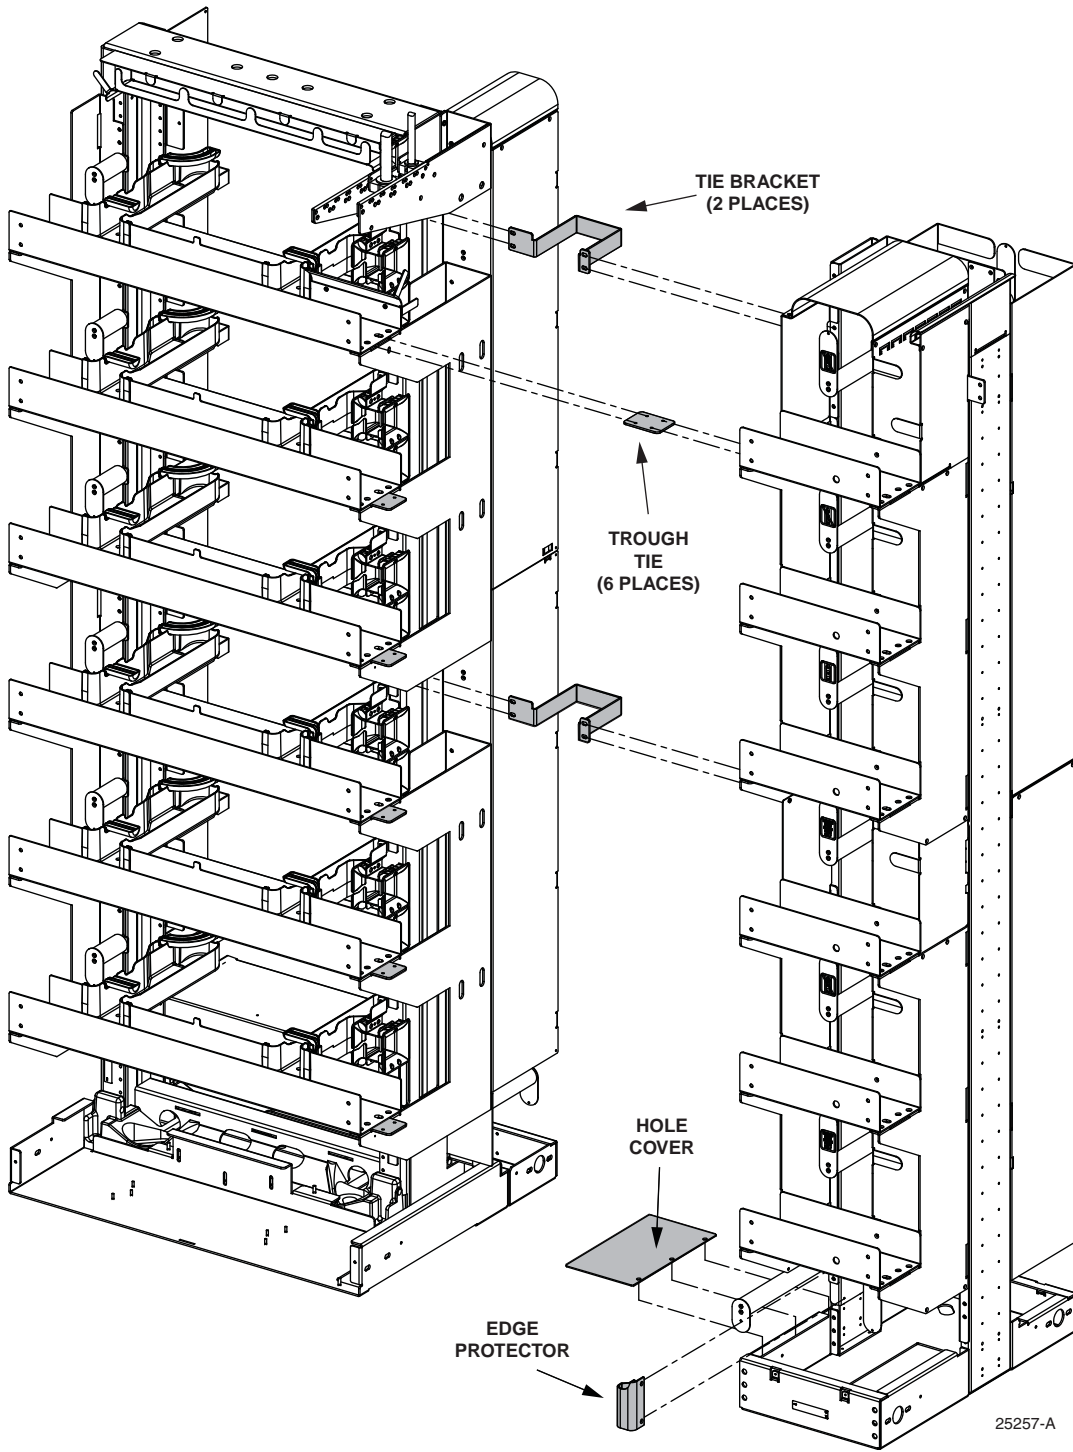

Figure 18. Installing Brackets
- Secure the FOTSP to the NG4access frame by installing tie brackets in two places and trough ties in six places as shown in Figure 18.
9. Install the hole cover in the location shown in Figure 18 on Page 18.